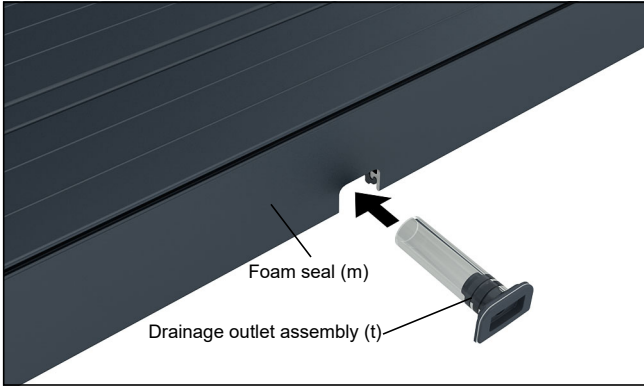

Figure 33
- Remove adhesive backer from foam gasket. Install drainage outlet assembly in the exterior of the sill. See figure 33.